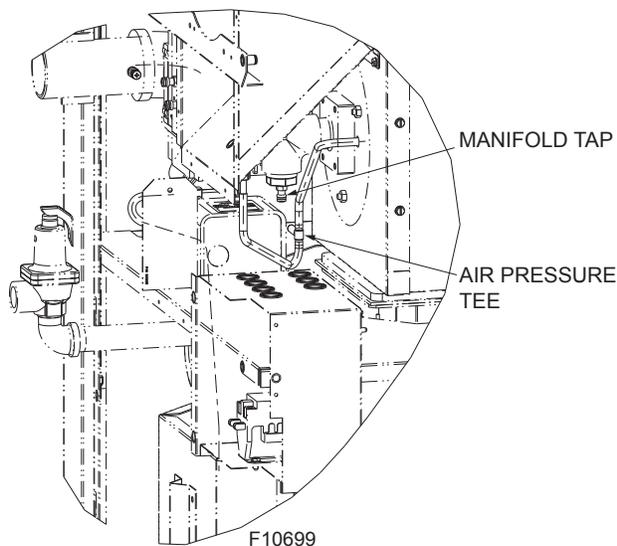

Figure 43. Air Pressure Tee
3. Attach (1) 12" scale manometer on the fan suction pressure hose. Pull black cap from the air pressure tee as shown in **Figure 43** and connect the manometer. NOTE: Retain caps for reinstallation later.
1. Check blower suction using the manometer attached to the air pressure tee as shown in **Figure 43**, with the heater firing at 100% input. The reading should be as noted in **Table T** for both natural and propane gas.